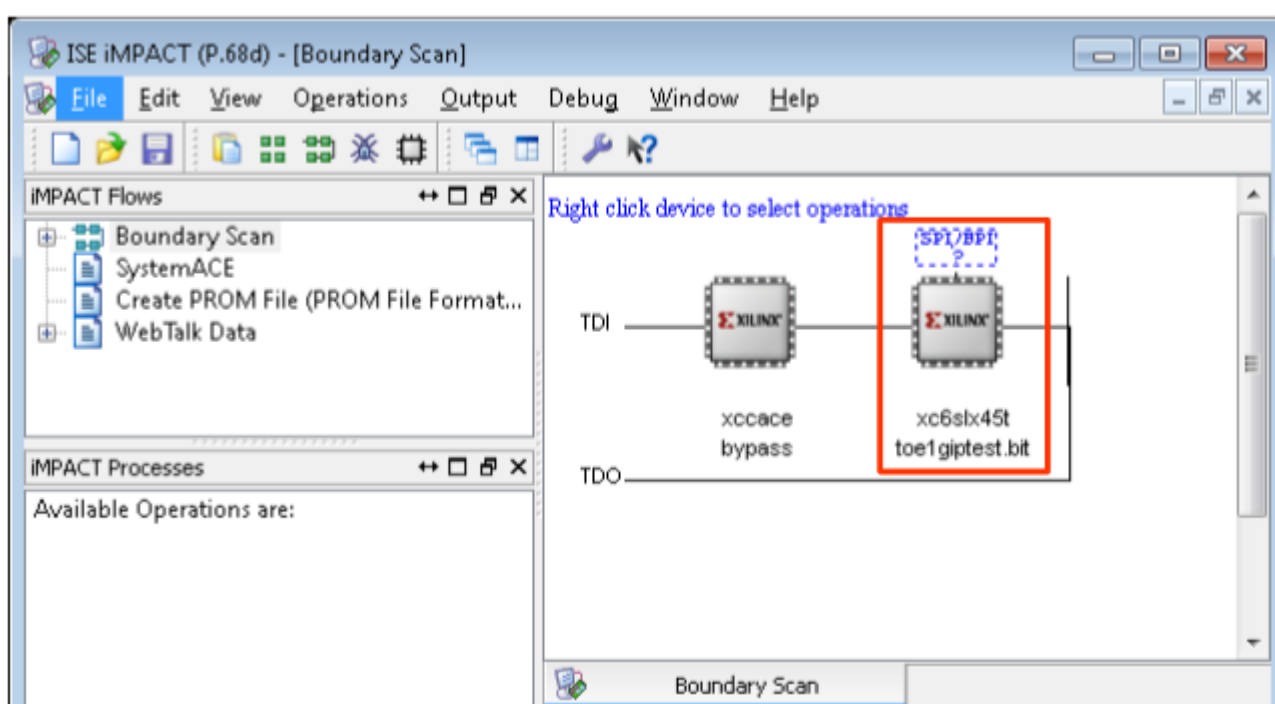

Figure 4-1 Programmer Environment
- 7) Open Xilinx programmer (iMPACT) and download “toe1giptest.bit” to SP605 development board, as shown in Figure 4-1.